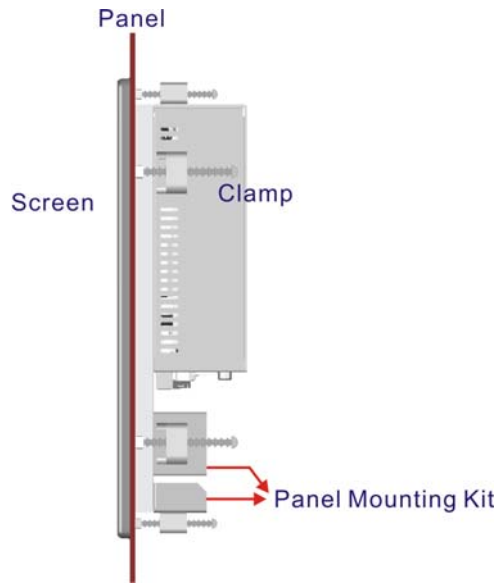

Figure 3-32: Tighten the Panel Mounting Clamp Screws
- Step 6:** Tighten the screws that pass through the panel mounting clamps until the plastic caps at the front of all the screws are firmly secured to the panel (**Figure 3-32**).